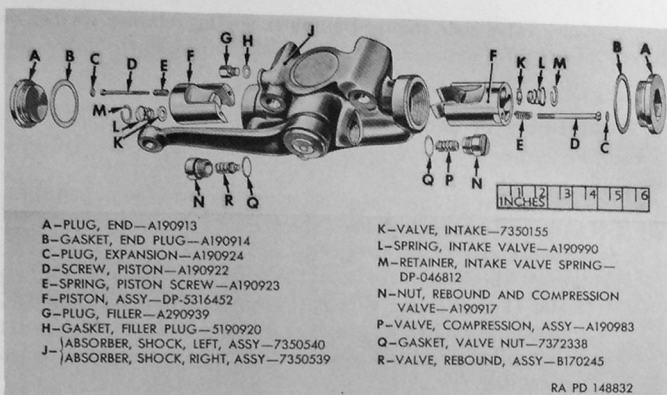

Figure 210. Shock absorber components.
*Note.* Key letters noted in parentheses are in figure 210.
*a. Cleaning.*—Wash all shock absorber parts in dry-cleaning solvent or volatile mineral spirits. Wipe small parts dry, and blow inside of cylinder and internal passages in body dry with compressed air. Make sure internal passages are thoroughly cleaned. Shock absorber components are shown in figure 210.
*Note.* Key letters noted in parentheses are in figure 210 unless otherwise indicated.